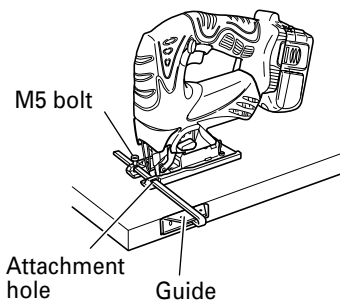

Fig. 17
- (3) Attach the guide by passing it through the attachment hole on the base and tighten the M5 bolt. (Fig. 17)
- (4) Set the orbital position to "0".
To ensure accurate cutting when using the Guide (Fig. 17), always set the orbital position to "0".